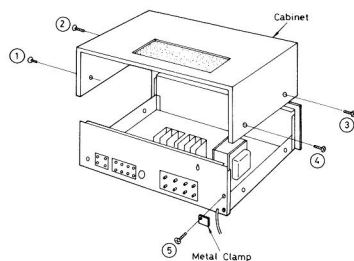

Fig. 1
1. Remove the four screws (fig. 1: ① ~ ④) at the left and right sides of the cabinet.
2. Loosen the chassis screw (fig. 1: ⑤) at the right side of the rear panel.